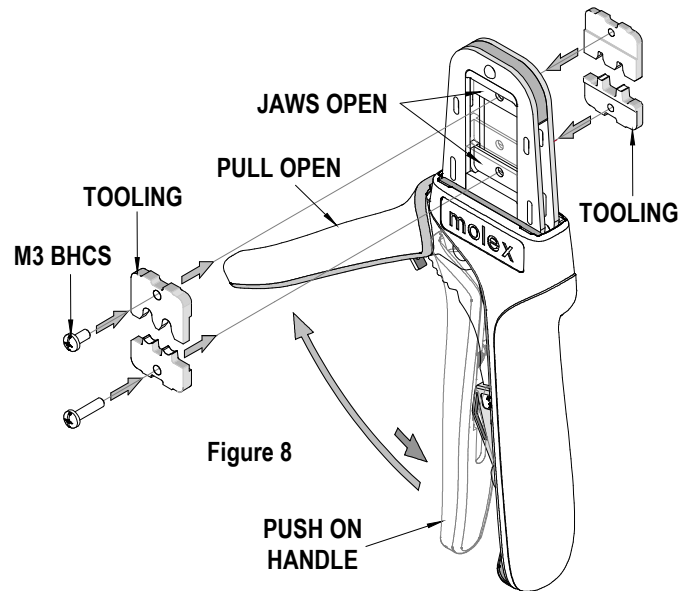

Figure 8
3. Flip the upper tooling to the opposite side, and replace the M3 BHCS. Make sure the small markings on the front and back of the hand tool frame match up and are on the outside of the hand tool frame. See Figures 8 and 9.